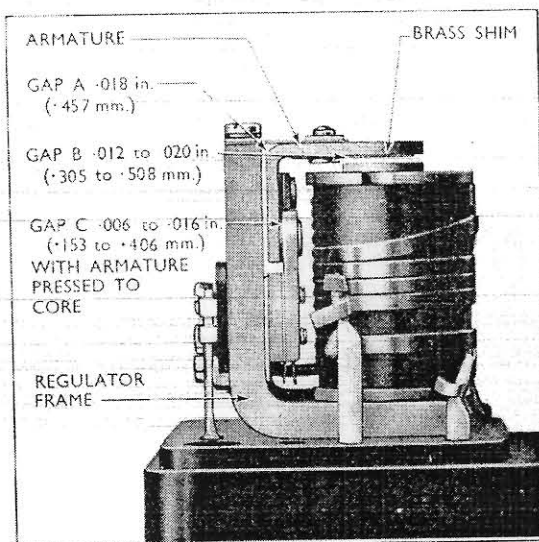

Fig. 8
2. Insert an 0.018 in. (.457 mm.) feeler gauge between the armature and the frame (gap A, Fig. 8) and an 0.020 in. (.508 mm.) feeler gauge between the armature and the core of the bobbin (gap B, 0.012 in. to 0.020 in.). Press the armature firmly against both gauges and tighten the two screws securing the armature to the regulator frame.